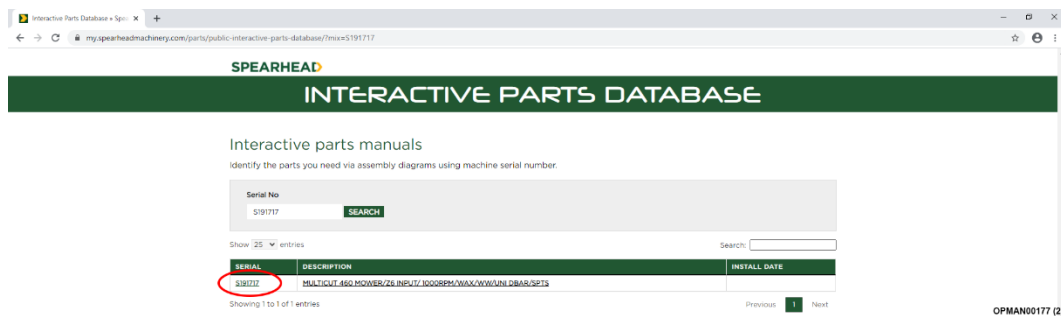

Figure 17 – Click On Serial Number
7.1.1.2 After entering the serial number a specification for the machine will appear. Click on the serial number; see Figure 17.